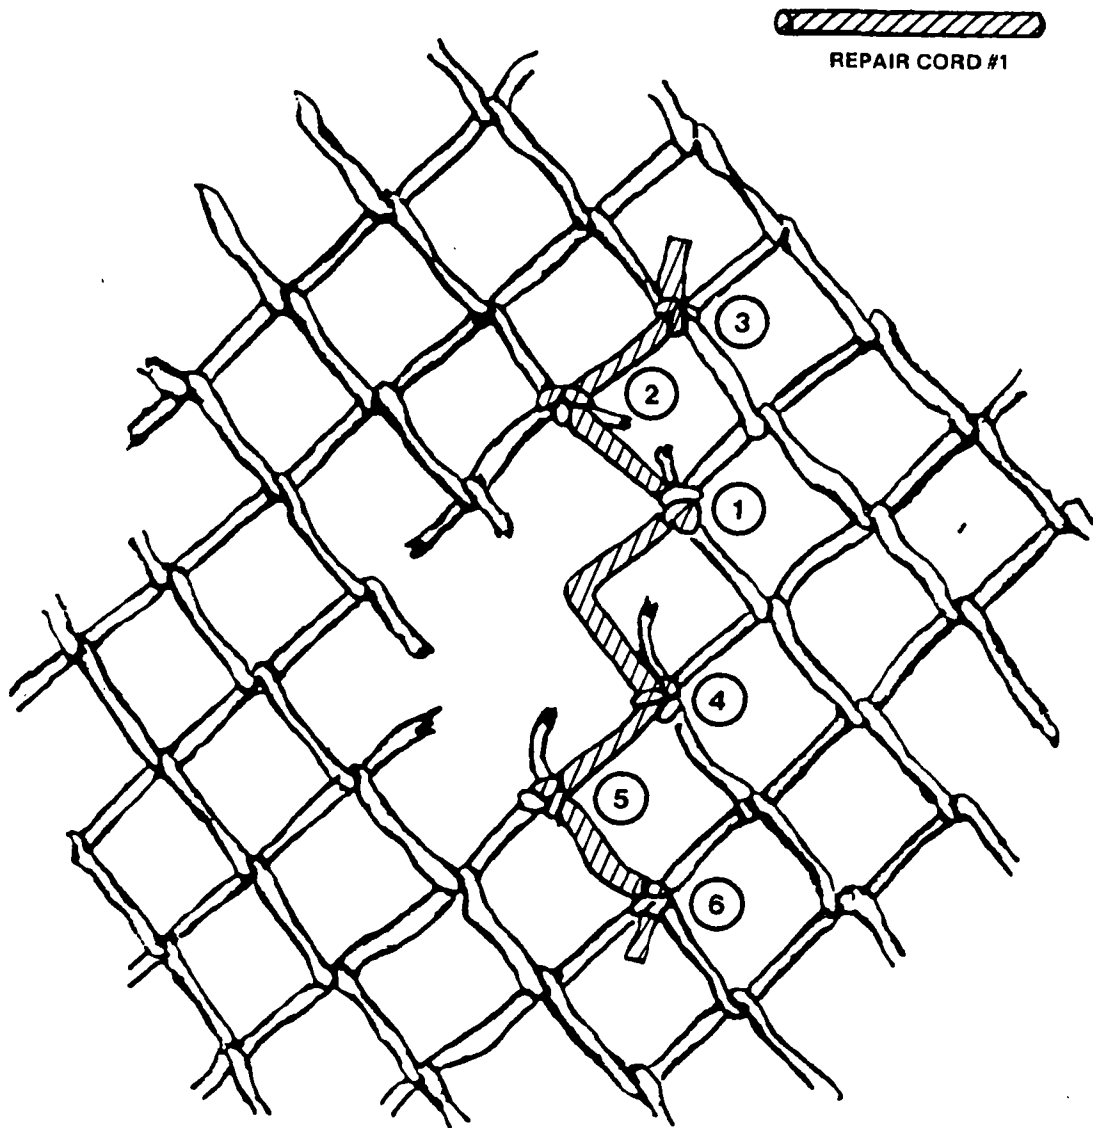

Figure F-12. Repair Cord 1
Step 2 - Now that you have determined the lengths of repair cords 1, 2, and 3, you are ready to begin actual repair of the hole in the net. Look at Figure F-12.
Next, tie a knot at the point as shown by circle 3. Be sure to leave an elbow for use during the next step. In that Step, you will make an intersection with repair cord 2. Now tie another knot at circle 4 in Figure F-12. Then follow the same zigzag direction of the cord to circle 5 and tie a knot there. Again, go two intersections past the damaged area and tie another knot at circle 6.